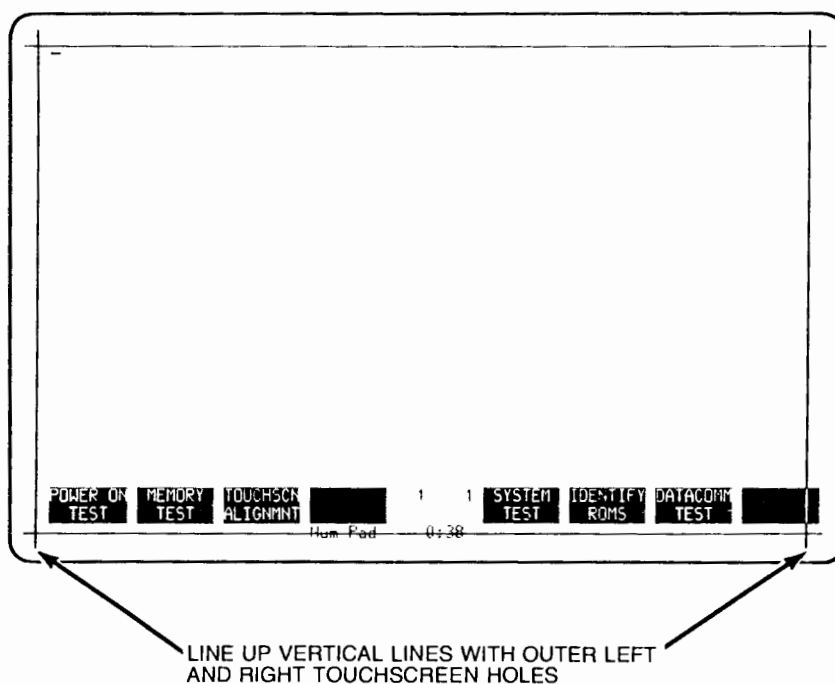

Figure 5-2. Horizontal Display Alignment
5. Using the alignment tool to turn the HORIZ. CENTER adjustment at the rear of the unit, center the display horizontally on the screen. Do this by lining up the outer left and right hand vertical grid lines with the outer left and right hand Touchscreen holes (see figure 5-2).